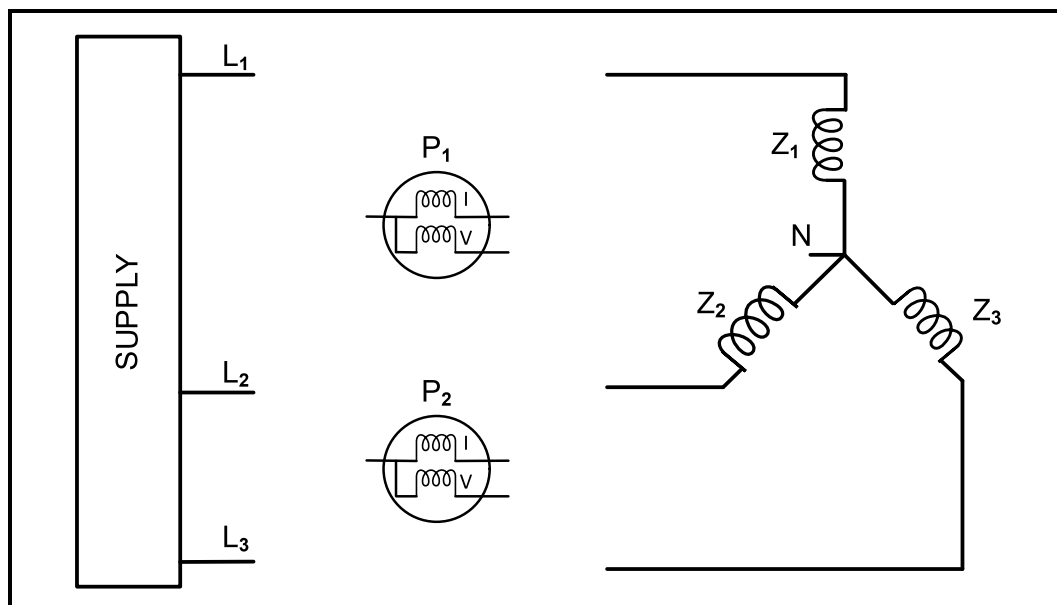

FIGURE 4.7: POWER MEASUREMENT IN A THREE-PHASE SYSTEM
- 4.7 FIGURE 4.7 below shows the diagram of a three-phase supply, a three-phase load and two wattmeters. Answer the questions that follow.
- 4.7.3 Redraw FIGURE 4.7 above and complete the drawing in your ANSWER BOOK to indicate how TWO wattmeters are connected to measure the total power. (6)